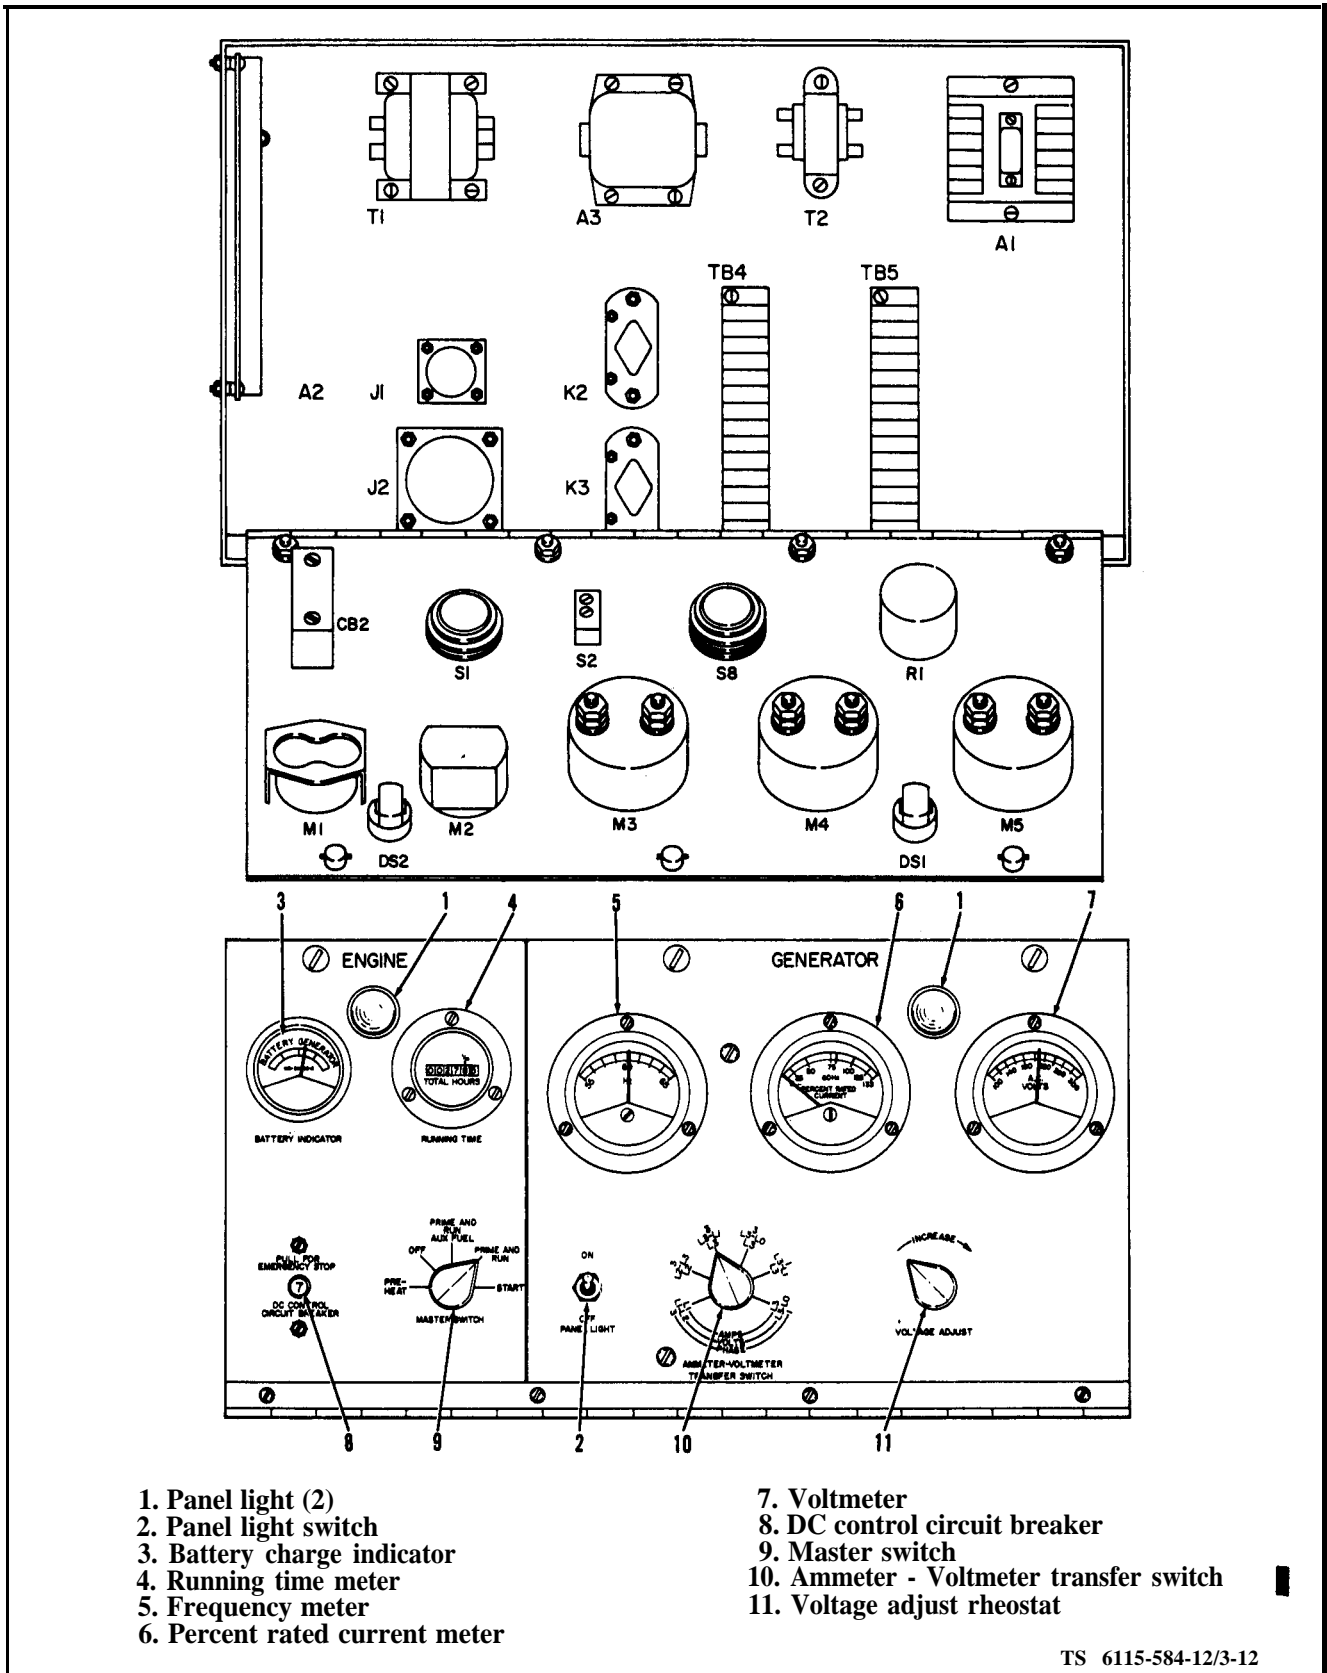

Figure 3-12. Control Cubicle
a. Inspect (see figure 3-12).
(1) Control Cubicle Assembly. Inspect cubicle for dirt, grease or physical damage which might affect operation of the unit. Loosen three fasteners holding control panel to permit access to the inside of the cubicle. Check to see that all parts mounted to the cubicle are secure and all hardware is in place. Check that all instruments and controls operate normally when unit in running. Check for broken or badly insulated harness wires and, if necessary, refer to higher level of maintenance.
(2) Panel Light Assemblies (DS1 and DS2). Inspect panel light assemblies (1) for cracked or miss-